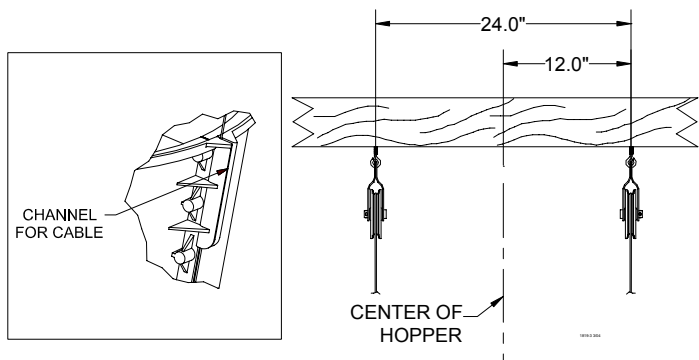

Figure 3.
8. Install two pulleys to the ceiling trusses directly above the feeder line where the hopper is to be located. The pulleys should be spaced 24" apart (12" from the center of the hopper in both directions). See Figure 3.